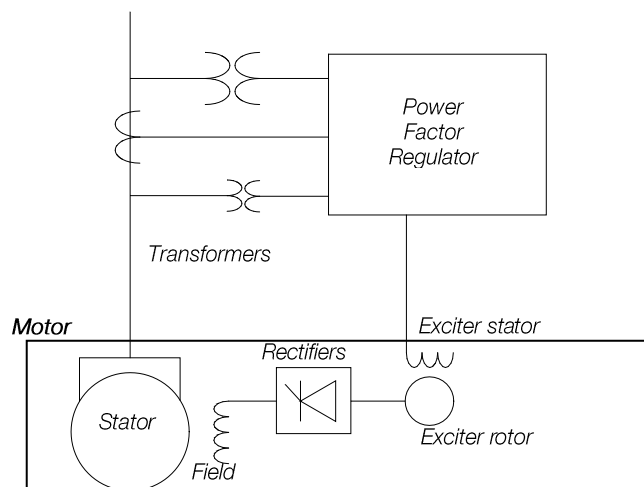

Figure 4.3: General connection diagram (brushless synchronous motor)
- Figure 4.3 shows the single line connection diagram of a synchronous motor without brushes.